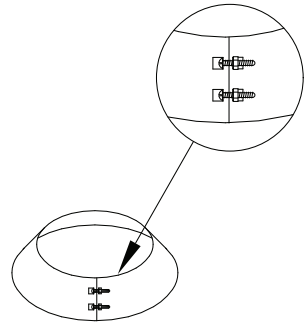

Figure 11
- e. Wrap the Collar of the Attic Insulation Shield around the chimney and fasten it loosely. Slide the Collar down to meet the Attic Insulation Shield. Tighten the bolts to secure the Collar in place (**Fig 11**).